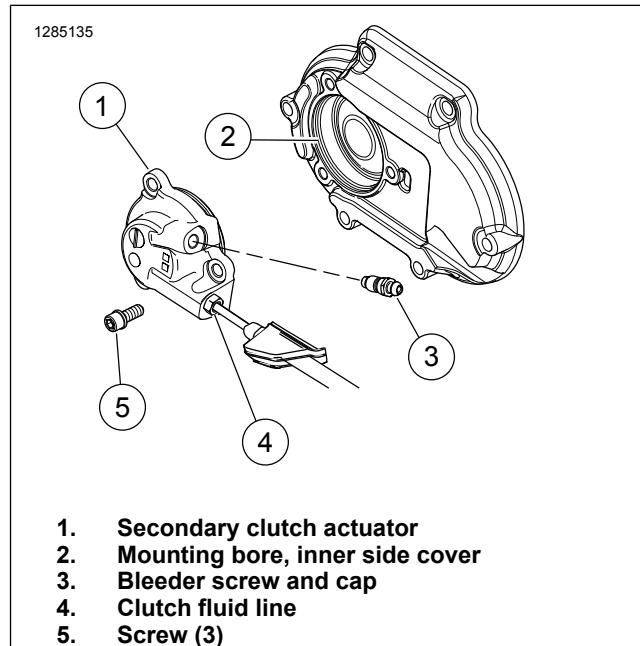
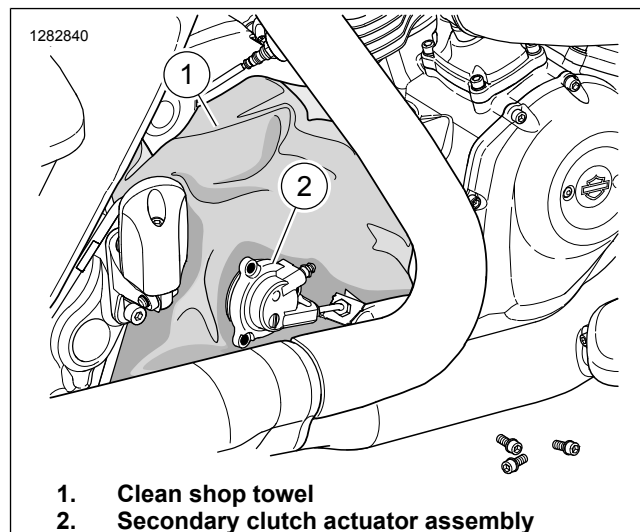

Figure 1. Secondary Clutch Actuator
Figure 2. Towel In-Place on Transmission
- **Do not disconnect clutch fluid line (4).**
2. Refer to Figure 1. Remove secondary clutch actuator (1) from inner side cover mounting bore (2).
- a. Remove screws (5) and secondary clutch actuator.
3. Refer to Figure 2. Place **clean** lint free shop towel over transmission inner side cover at secondary actuator bore.
- Refer to Figure 1. Install secondary clutch actuator (1).
- Lubricate mounting bore (2) in the inner side cover with a film of transmission fluid.
- Install secondary clutch actuator (1) and screws (5).